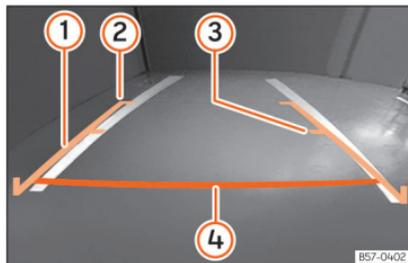

Fig. 212 Display on the Infotainment system screen.: guide lines.
- Vehicle load modifies the representation of the guide lines »» Fig. 212. The width represented by the lines decreases with vehicle load. Pay special attention to the surroundings when the inside of the vehicle or the luggage compartment are loaded.
Meaning of the orientation lines »» Fig. 212